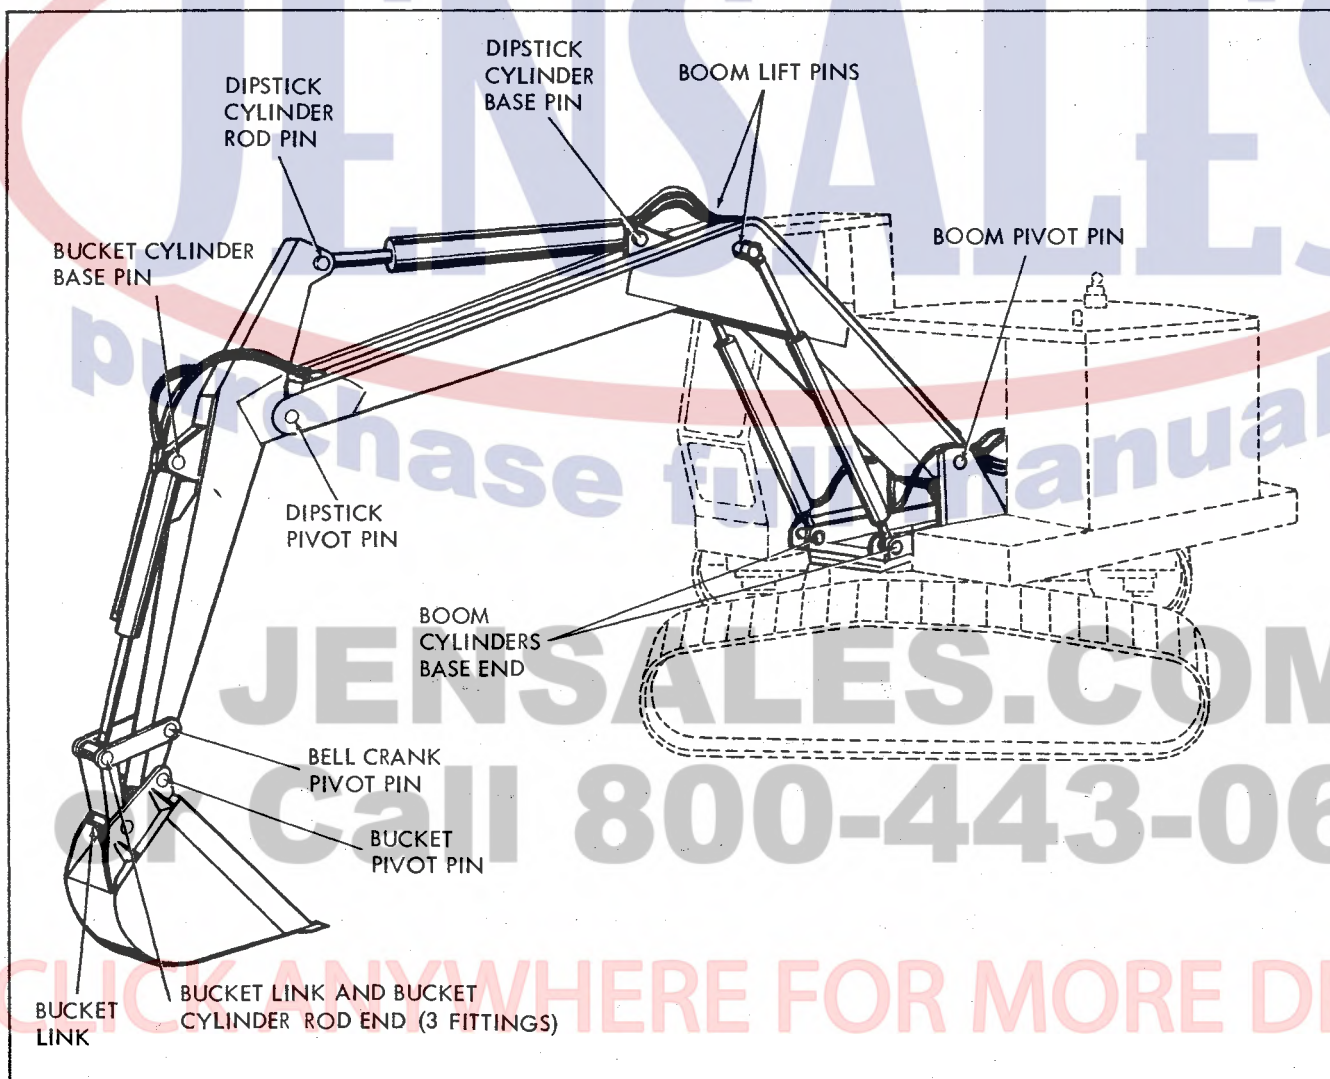

Figure 4. Lubrication Chart — Digging Members
- ✓ Lubricate entire machine as required; see Table 1 and Figures 4 and 5.
Daily	Lubricate backhoe at points shown in Figures 4 and 5. Always remove excess grease after lubrication to prevent the accumulation of dust and dirt which would enter bearings and bushings.